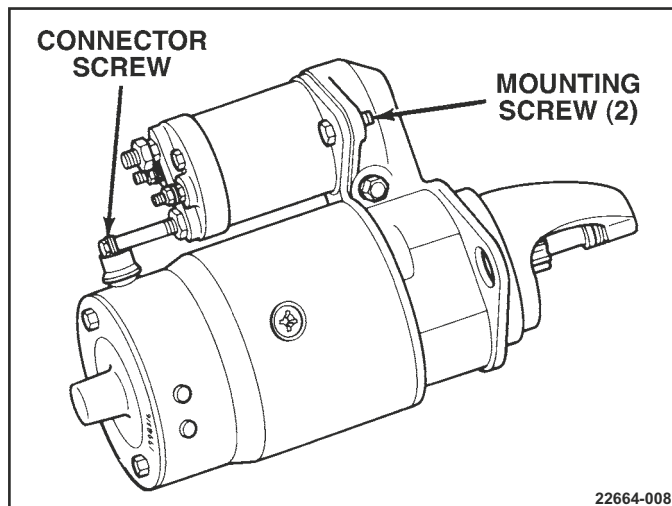

Figure 4-2 Solenoid Screw Removed
Figure 4-2 through 4-4
1. Remove solenoid switch and mounting screws (figure 4-2).